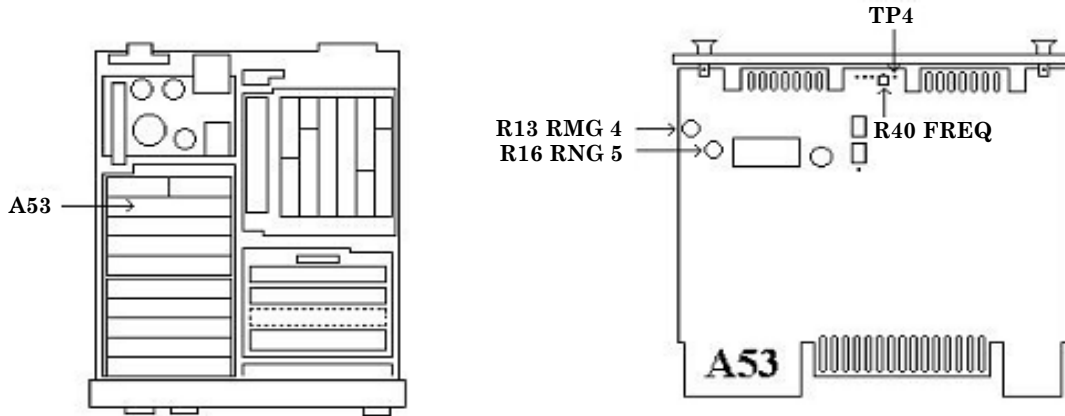

Figure 18. A53 board.
- (1) Reduce all outputs to minimum and disconnect equipment setup.
- (2) Connect range calibrator **POWER METER** connector to TI **SENSOR** input.
- (3) Set range calibrator to calibrate 1 mW range and normal polarity.
- (4) Press TI **RF POWER** key.
- (5) Adjust A53R40 FREQ (fig. 18) for a maximum indication on TI display.
- (6) Press TI keys as listed in (a) and (b) below:
- (7) Connect TI **MODULATION OUTPUT/AUDIO INPUT** to A53TP4 (fig. 18).
- (8) TI indication should be between 204 and 236 Hz.
- (9) Disconnect A53TP4 (fig. 18) from TI **MODULATION OUTPUT/AUDIO INPUT**.
- (10) Set range calibrator to standby.
- (11) Press TI keys as listed in (a) and (b) below:
- (12) Set range calibrator to calibrate.
- (13) Press TI keys as listed in (a) through (e) below:
- (20) Press TI keys as listed in (a) and (b) below:
- (21) Set range calibrator to calibrate.
- (22) Press TI keys as listed in (a) through (e) below:
- (23) Adjust A53R13 RMG 4 (fig. 18) for a TI indication of 10.00 mW.
- (24) Press TI keys as listed in (a) and (b) below:
- (25) Set range calibrator to 100 mW range.
- (26) Adjust A53R16 RNG 5 (fig. 18) for a TI indication of 100.0 mW.
- (27) Press TI keys as listed in (a) and (b) below:
- (28) Reduce all outputs to minimum and disconnect equipment setup, reinstall A53 board and repeat performance check.